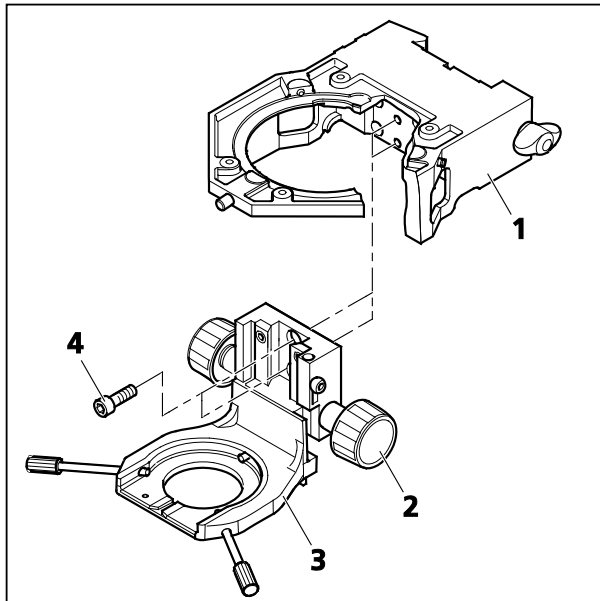

Fig. 32 Attaching the condenser carrier to the stage carrier
- Use the drive knob (Fig. 32/2) to adjust the guide of the condenser carrier (Fig. 32/3) in such a way that the two screws (Fig. 32/4) are accessible.
- Attach the condenser carrier to the stage carrier (Fig. 32/1). Push it firmly in a straight line to the upper stop, and tighten the two screws.